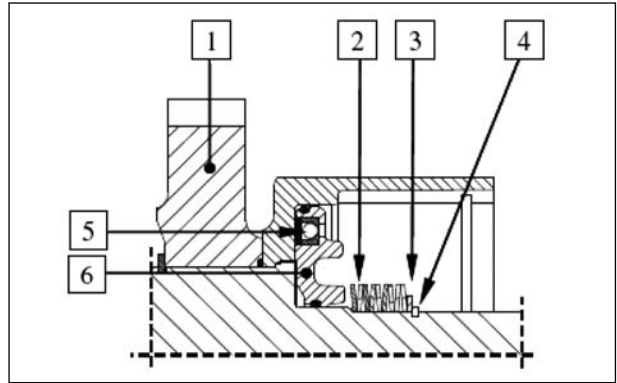

Figure 7
Pay attention to the installation position, see Figure 7!
**Installation position of the cup springs, see Figure 7!**